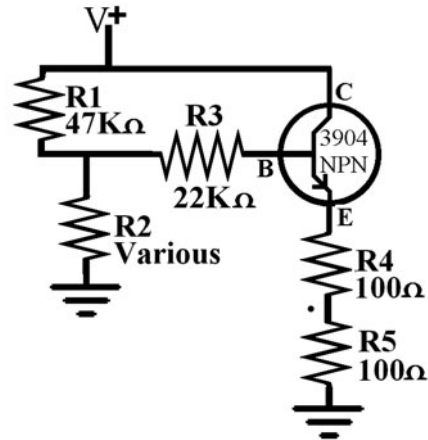
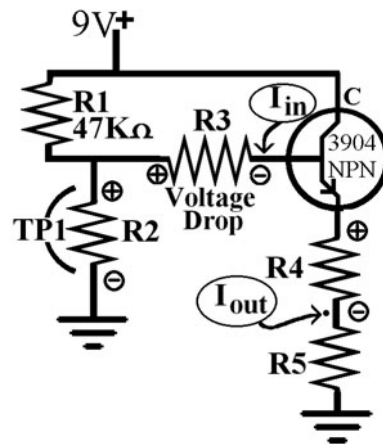

Figure L51-1
Figure L51-2
Set up a modified version of the night light circuit. The schematic in Figure L51-1 shows a few changes needed to calculate the gain of the NPN 3904 transistor.
4. In Figure L51-2, R4 and R5 make a voltage divider. Measuring the voltage drop across R4 makes it an easy task to calculate the current available at the emitter (output).
6. Now, referring to the schematic in Figure L51-2, use the values shown for R2. R2 is the only resistor that changes values. R3 keeps the 22 kΩ value shown in Figure L51-1 (see Table L51-3).